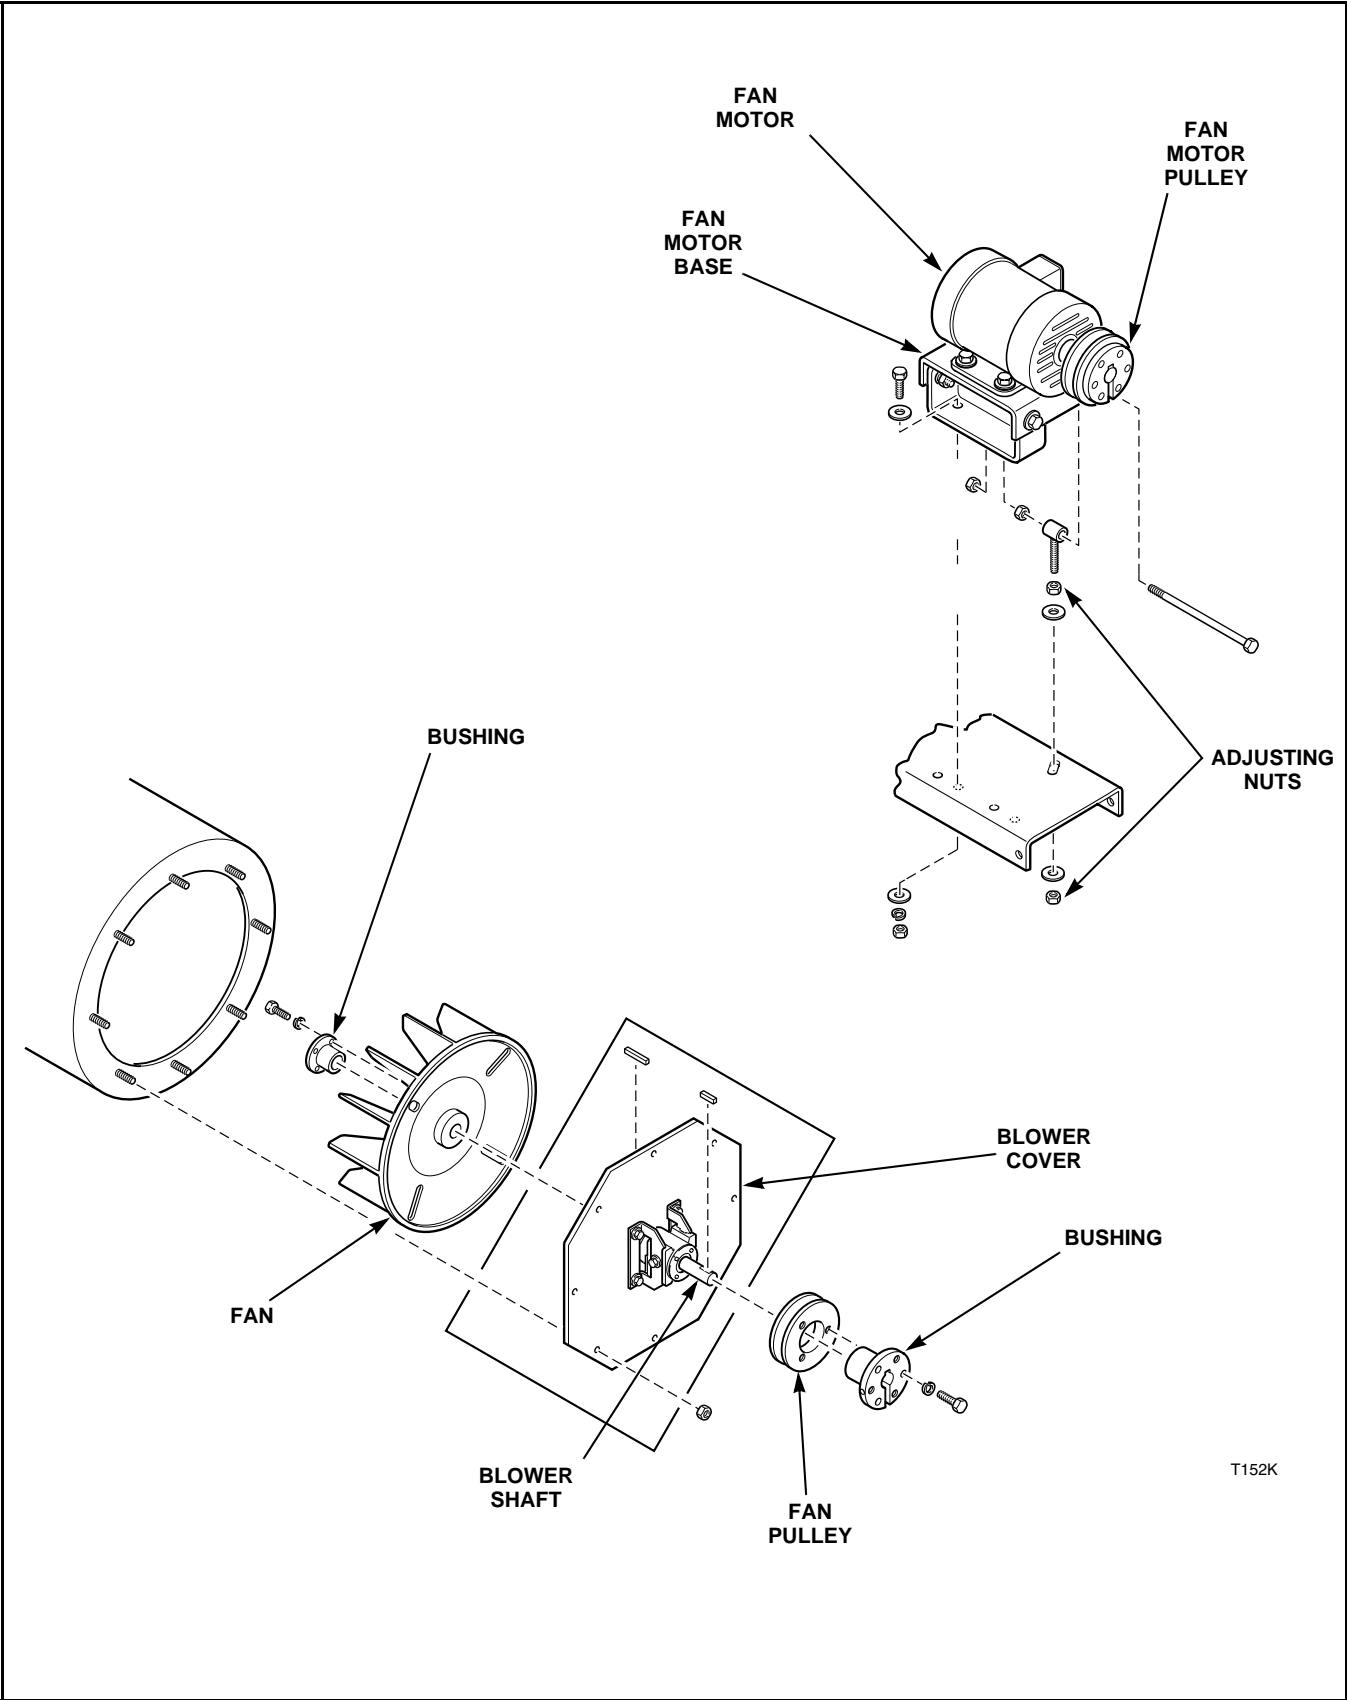

Figure 18
- c. Loosen fan belt with adjusting nuts. Refer to *Figure 18*.
Refer to *Figure 18*.